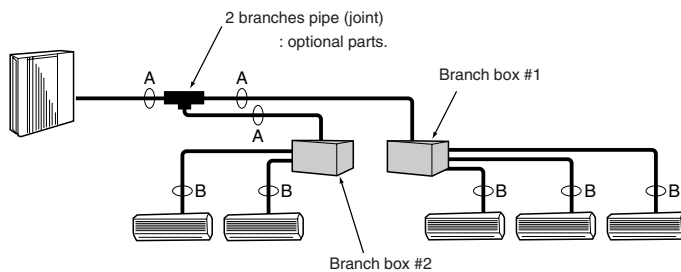

Fig. 5-2
5.4. Selecting pipe size (Fig. 5-2)